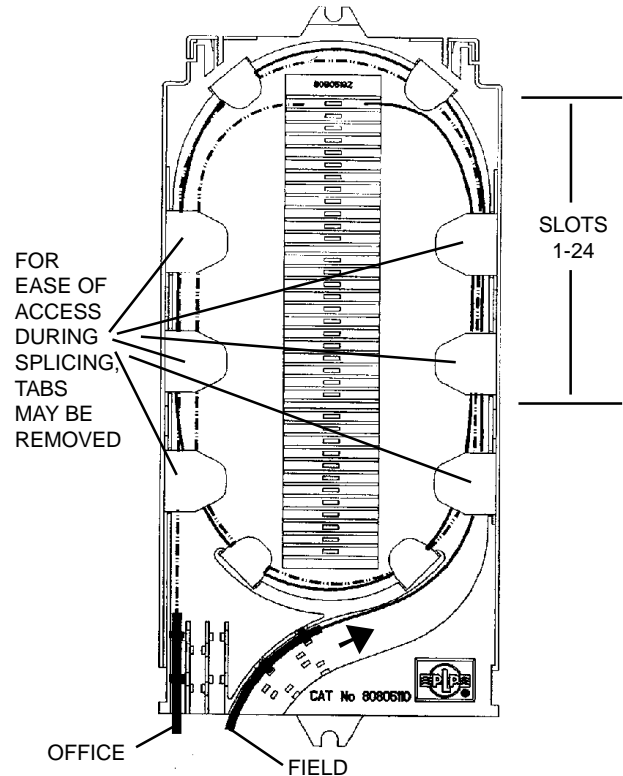
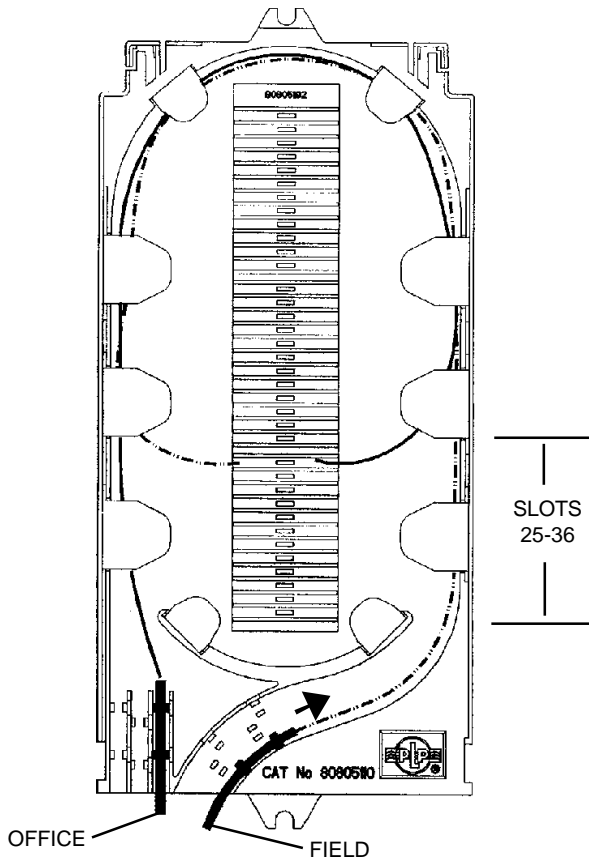

FIGURE 32A - ROUTING FIBERS IN THE SINGLE FIBER SPLICE TRAY—FIBERS 1-24
FIGURE 32B - ROUTING FIBERS IN THE SINGLE FIBER SPLICE TRAY—FIBERS 25-36
13.04 When routing the fiber in the **SINGLE COUNT SPLICE TRAY**, route fibers **1-24** 1-1/2 times around the splice tray and lay into the top of the splice block (see Figure 32A). Route fibers **25-36** 1-3/4 times around the splice tray, and lay into the bottom of the splice block (see Figure 32B).